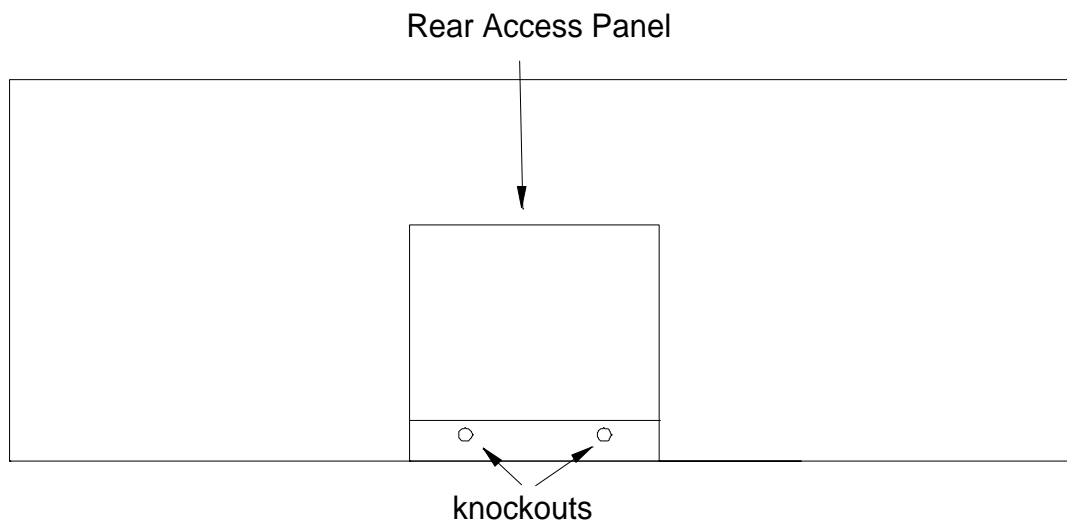

Figure 5 Upper Access Panel
1. Remove the hex head screws which hold the rear upper access panel in place (Figure 5).